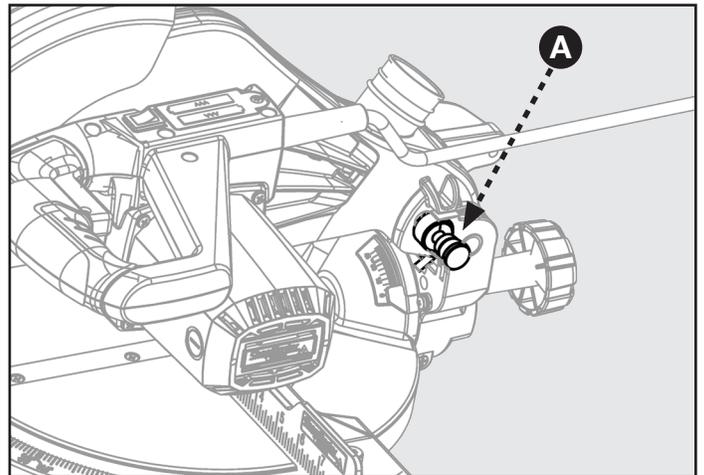

FIGURE 2
1. The saw is shipped with the arm secured in the down position as shown in Figure 2. To release the arm, push it down, cut the plastic tie and release the lock pin (A).
2. Lock pin (A) is for storage and transport only. Saw is not to be locked in down position during cuts.